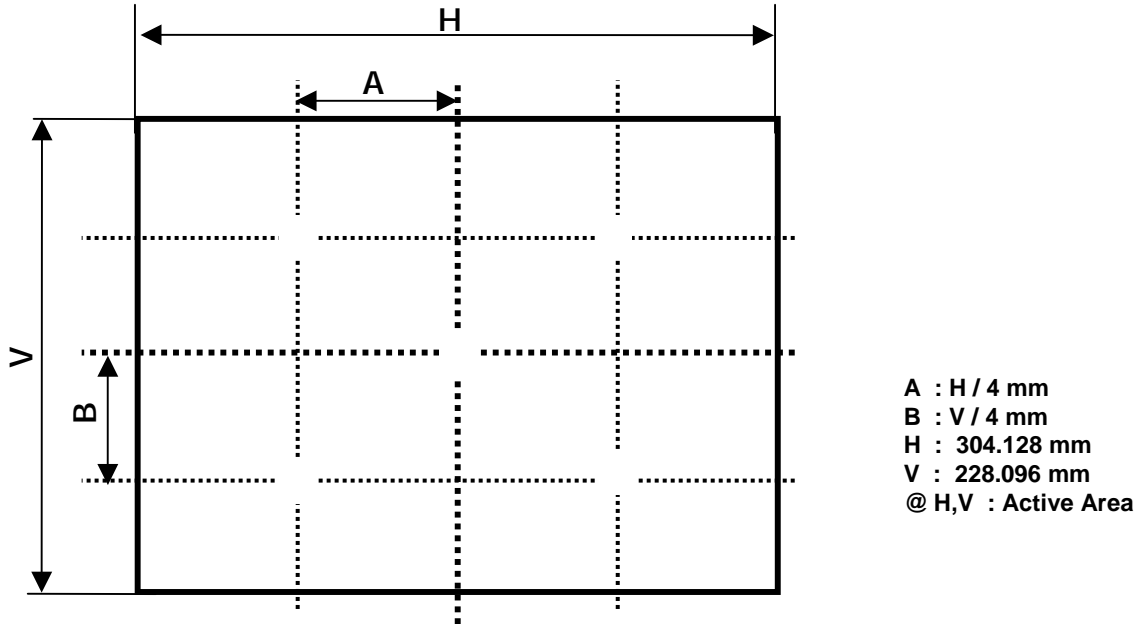

FIG. 2 Measure Point for Luminance
2. Surface luminance is luminance value at center point (1) across the LCD surface 50cm from the surface with all pixels displaying white. For more information see FIG 2.
Where  $L_{on1}$  to  $L_{on5}$  or  $L_{on13}$  are the luminance with all pixels displaying white at 5,13 locations . For more information see FIG 2.